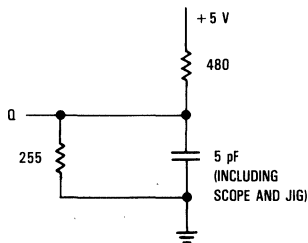

Figure 1B
4. Transition is measured ± 500 mV from steady-state voltage with load of Figure 1B.
4. Transition is measured ± 500 mV from steady-state voltage with load in Figure 1B.